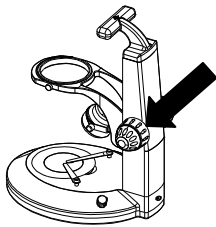

Figure 2
- 2) If you want to adjust the degree of tightness of the focusing arm, you can hold one of the focusing knobs and turn another one to attain a suitable position. The degree of tightness relies on the direction to be turned. The clockwise direction is tight; counterclockwise is loose. (Figure 2)